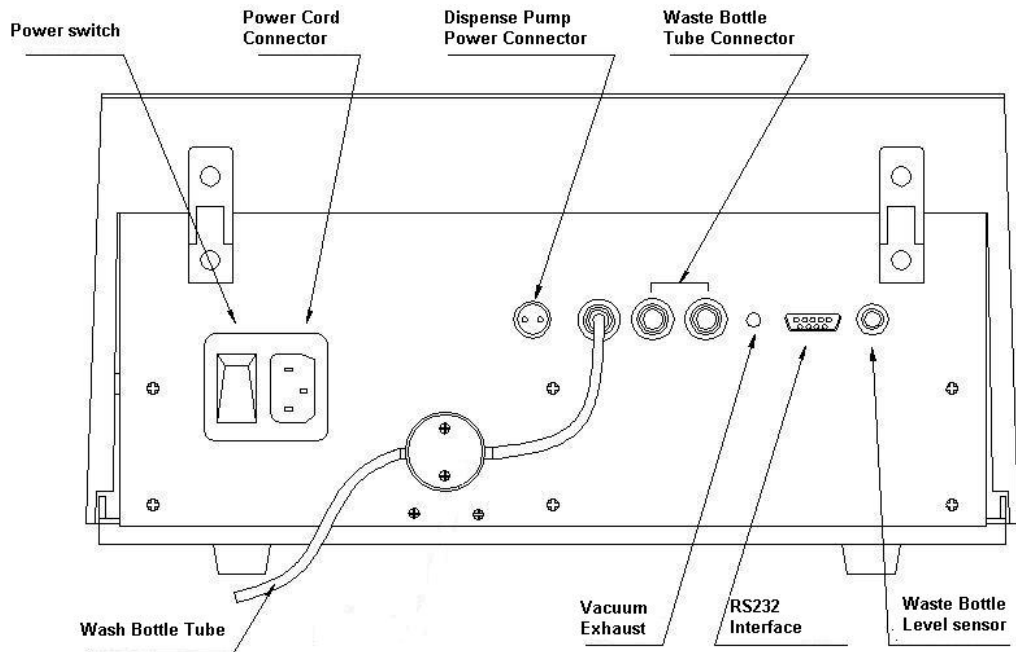

Figure 2.Rear View of the Wash8to12 system
Connectors at the rear of the RT2600C system are shown in Figure 2.
instrument (see figure 2).
- Connect the dispense pump power cable to corresponding connector at the rear panel of the instrument (see figure 2).
- Connect the waste tubes to the waste bottle tube connectors at the rear panel of the instrument (see figure 2).
- Connect the level sensor cable to corresponding connector at the rear panel of the instrument (see figure 2).